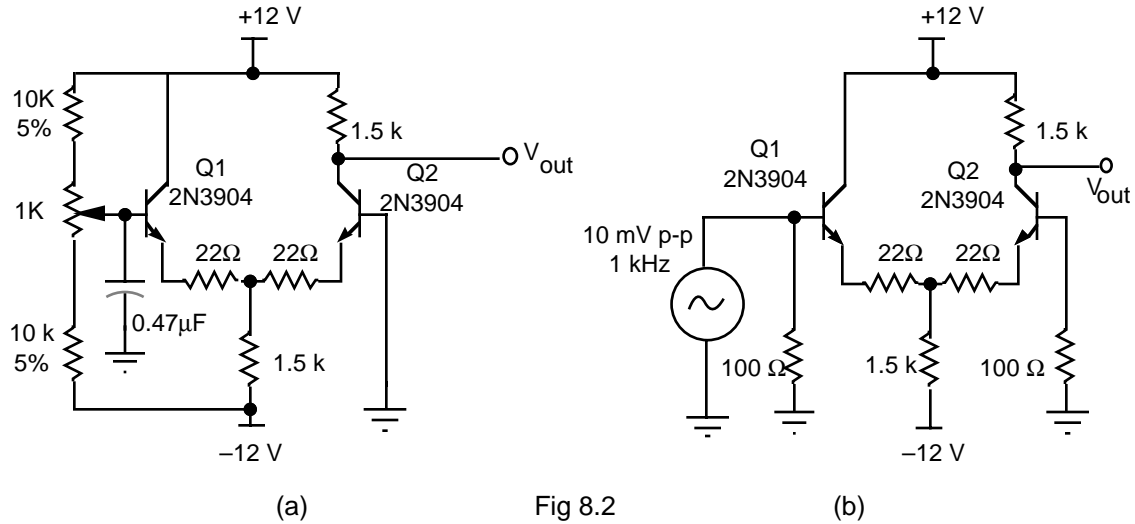

Fig 8.2
b) In Fig. 8.2(a), if you ground the base of transistor Q_1 , the transistors are identical and the components have the values shown, then the output voltage will be $+6.35$ V. For this experiment, any deviation from $+6.35$ V will be called $V_{out(off)}$. Connect the circuit of Fig 8.2(a). Jumper the base of Q_1 to ground and measure $V_{out(off)}$. Take off the jumper and connect the potentiometer voltage-divider and adjust it until the output voltage is $+6.35$ V. Record the base voltage of Q_1 as $V_{in(off)}$.
c) Calculate the expected values of the differential and common-mode gains and the Common Mode Rejection Ratio. Measure the differential and common-mode gains, A and A_{cm} , using the connection of Fig. 8.2(b). Use a frequency of 1 kHz and a signal level of around 10 mV p-p.